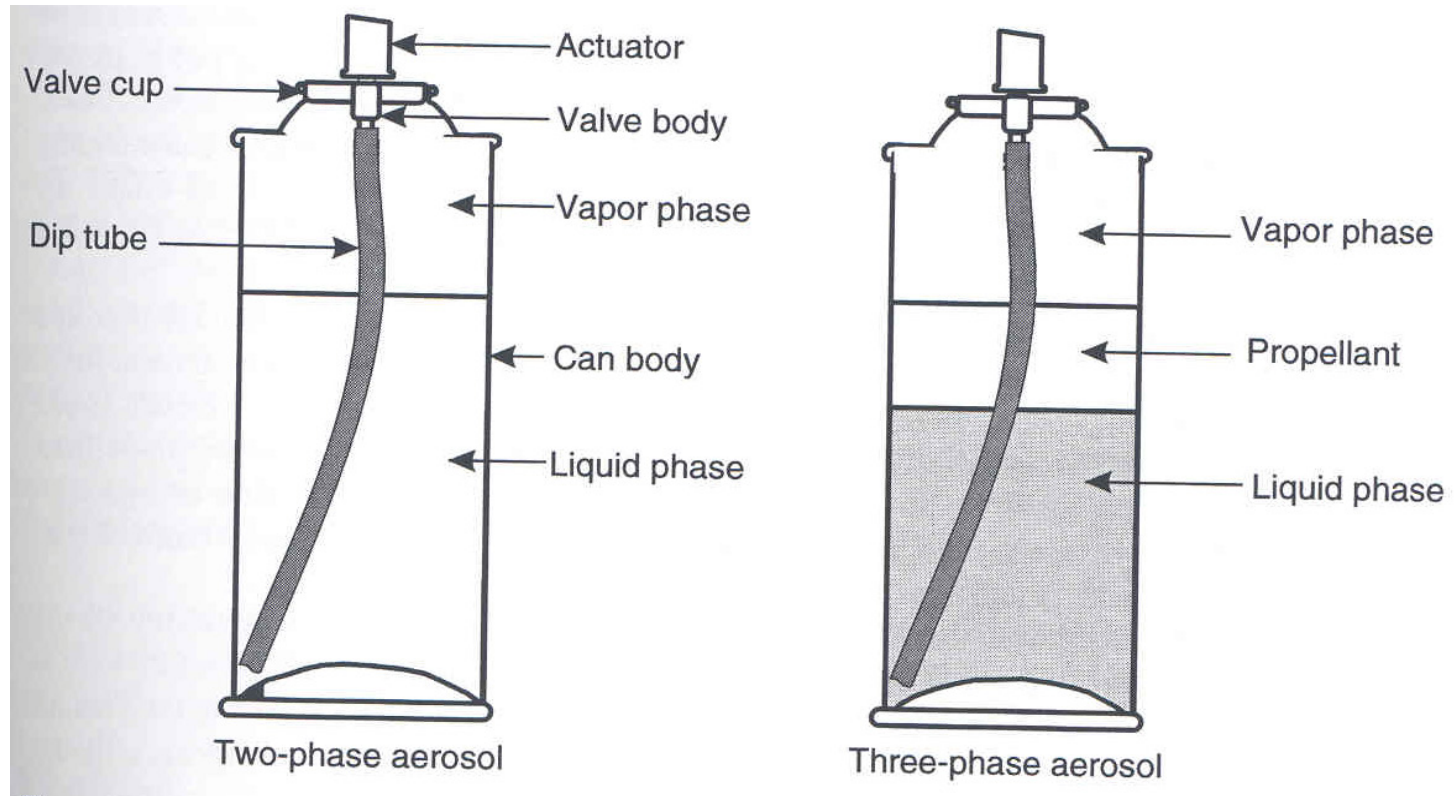

Figure 5.14 In a two-phase aerosol, the propellant is dissolved in the product. In a three-phase system, the propellant forms a separate layer
-A typical aerosol product has a liquid phase and a vapor phase (Figure 5.14).